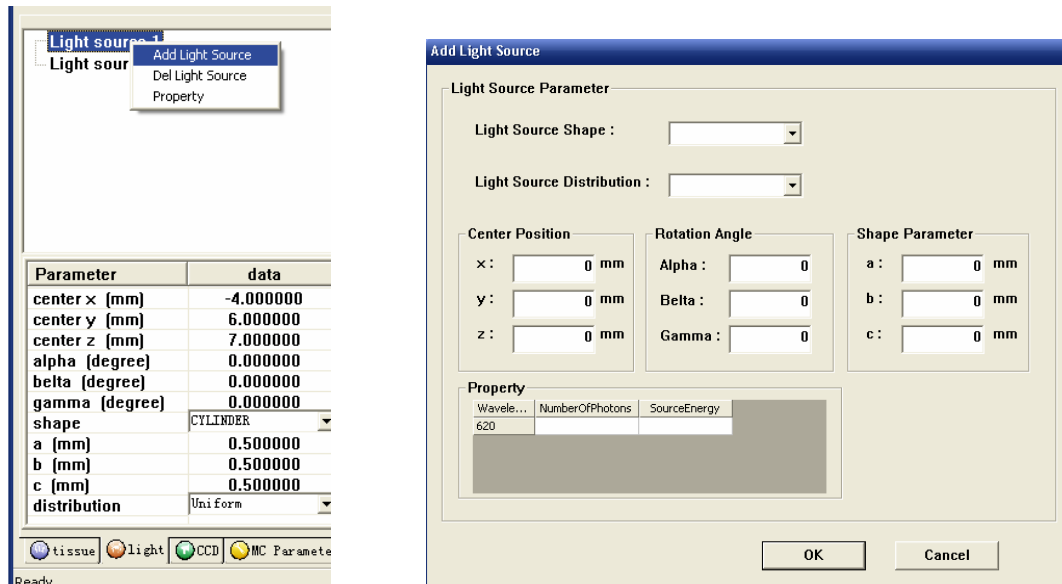
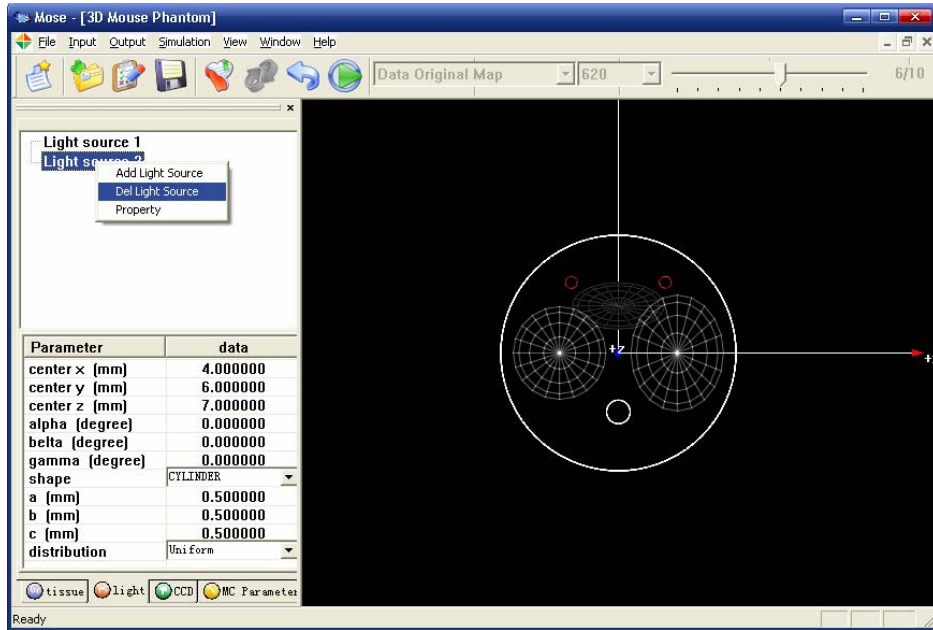
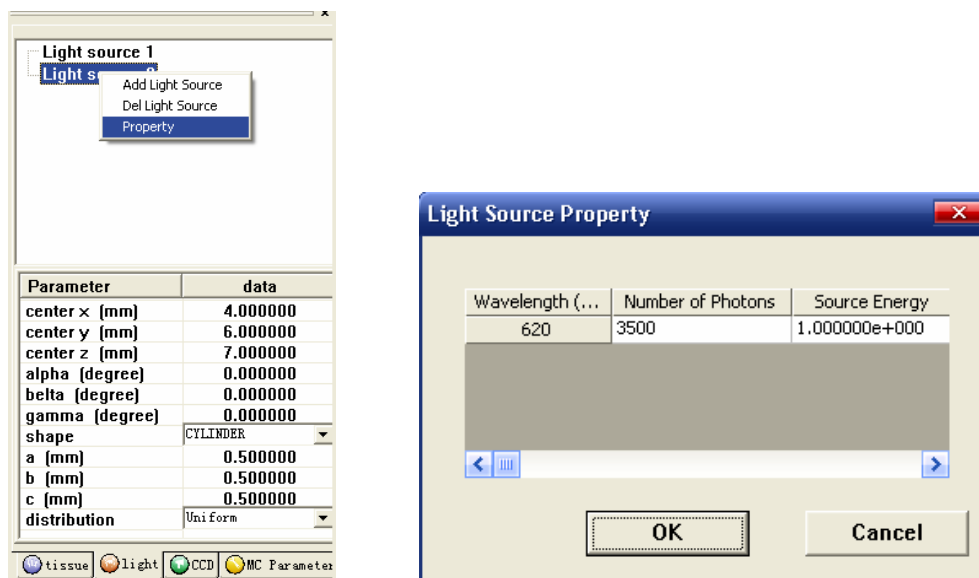

Figure 12-4. Add a light source
Figure 12-5. Delete a light source
Figure 12-6. Set the property of the light source
b. *Light* list: Light source is shown in the upper list, corresponding information including position and shape parameters which can be modified are shown in the second list. Right click a certain light source, we can add or delete a light source, or set the energy distributing and the number of photons in each spectrum band (see Figure 12-4, Figure 12-5, and Figure 12-6).